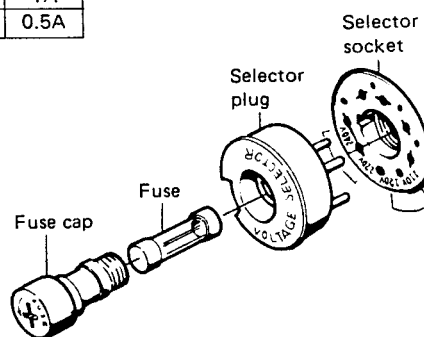

Fig. 12
2. Use Phillips screwdriver to unscrew fuse cap, then take out fuse and SELECTOR plug (Fig. 12).